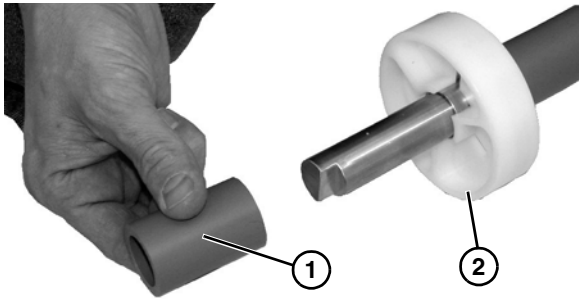

Figure 63
- Slide off the round puck spacer (**Figure 63, item 1**).
- Slide off puck and replace (**Figure 63, item 2**).